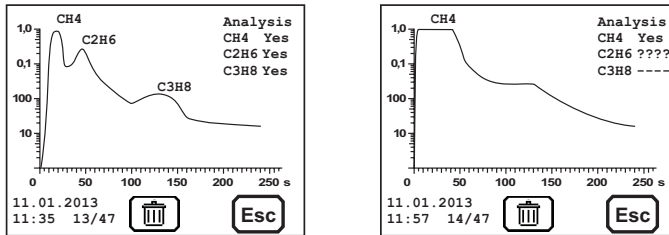

Fig. 9: Quality assessment of an ethane analysis; Left: good quality, Right: poor quality
- The maximum concentration of a gas component is 1% vol., even if the actual concentration in the gas sample is higher. In the mode of curve, the maximum peak may be cut off as necessary (Fig. 9 right).
Ideally, the result of the ethane analysis is a curve with at least one clear, steep peak (Fig. 9 left). However, occasionally, the analysis does not provide a clear determination of the gas components present (Fig. 9 right). In such cases, you must decide whether the analysis quality is sufficient.